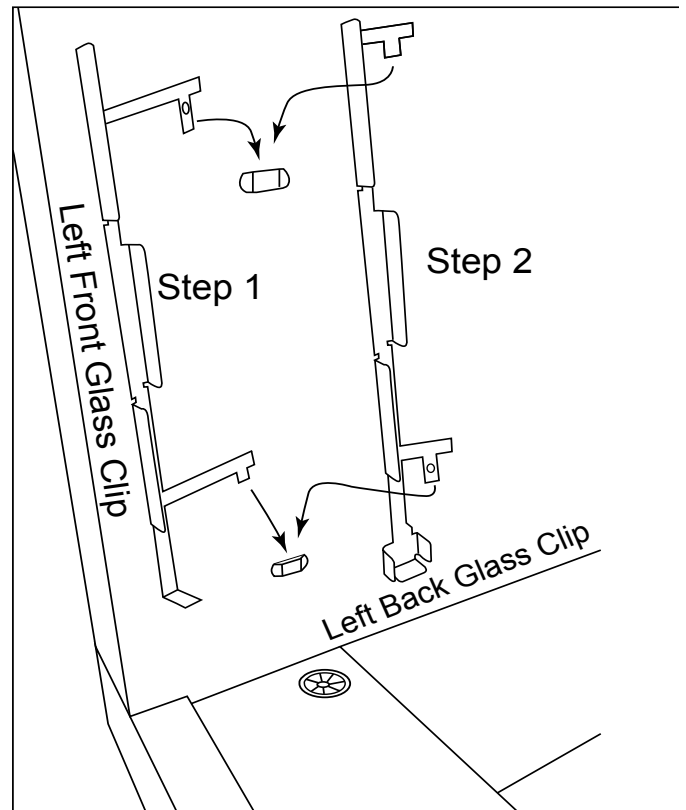

Fig. 4 Shows clips installed on left side of fireplace
Step 4: Install the front glass clips (77155 & 77154) into the metal bridges by sliding the tab of the clip through the metal bridges as shown in Fig. 4. One clip on each side.